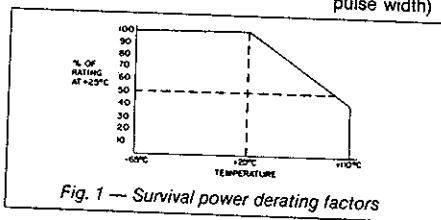

Fig. 1 — Survival power derating factors
Survival Power (from -65°C to +25°C; see power derating curve, figure 1, for higher temperatures).... 2W average, 10W peak (1 μsec max pulse width)
- (1) Units can be operated at higher input power levels with some increase in switching time when -30V power supply is used.
- (2) Into 50 ohm system.
- (3) Up to Survival Power limits shown in figure 1.